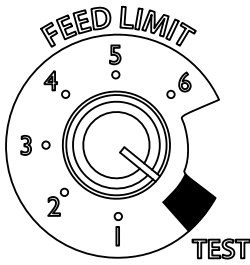

Figure 19
4. Adjust Feed Rate. If this is your first fire or you are trying different pellets, set the feed limit to #4, Figure 19. This is a conservative number and will probably need to be increased. After you know a feed rate setting that works well, use that setting. Remember, if your feed rate is too high you may waste fuel.